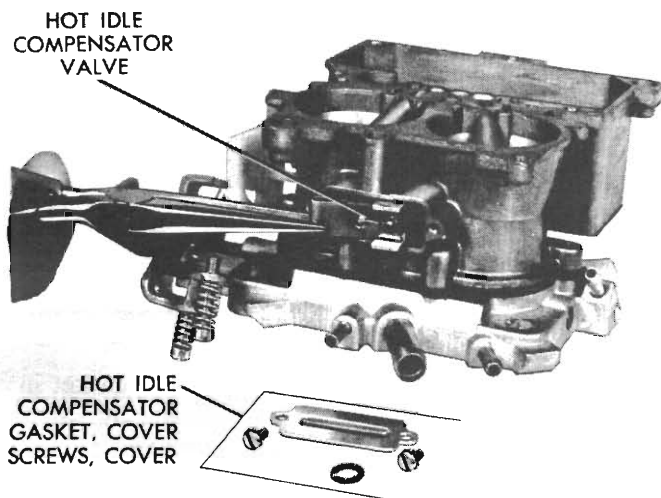

Fig. 12 - Removing or installing hot idle compensator valve
(17) Remove screws that attach hot idle compensator valve cover to main body. Lift off cover, then remove valve and gasket (Fig. 12).
(9) Install hot idle compensator valve gasket in position in recess in main body, followed by valve. (Be sure valve is positioned with legs toward outside of main body.) (Fig. 12). Place cover over opening and install attaching screws. Tighten to 15 inch pounds.